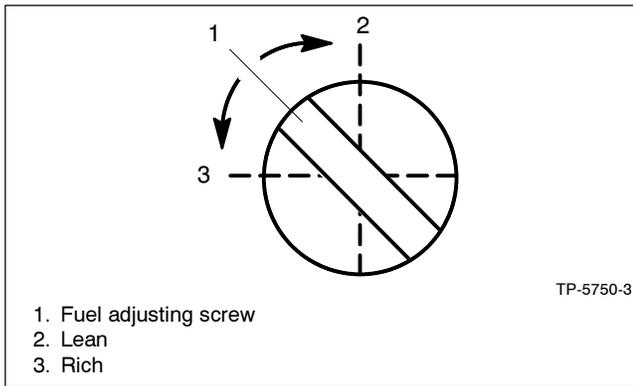

Figure 3 Fuel Mixer (Carburetor) Fuel Mixture Adjustment, Typical
- 4.1 Adjust the fuel metering valve (Figure 3) as required to obtain a 0.8-0.9 VDC oxygen sensor output. The oxygen sensor output reads high when the mixture is richer and close to zero volts when the mixture is leaner.